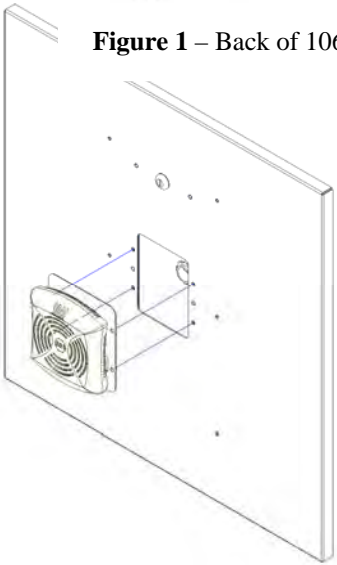

Figure 2 – Close-up showing installation of the access point attached to the Oberon mounting plate
Item 5 – Each mounting plate has four keyway studs located on the bottom that will fit into the four 1/4" openings on the front of the enclosure. Align the keyway studs with the openings and guide the mounting plate into place. To lock the access point/mounting plate assembly in place, turn the key 180° clockwise. (Reference Figure 2)